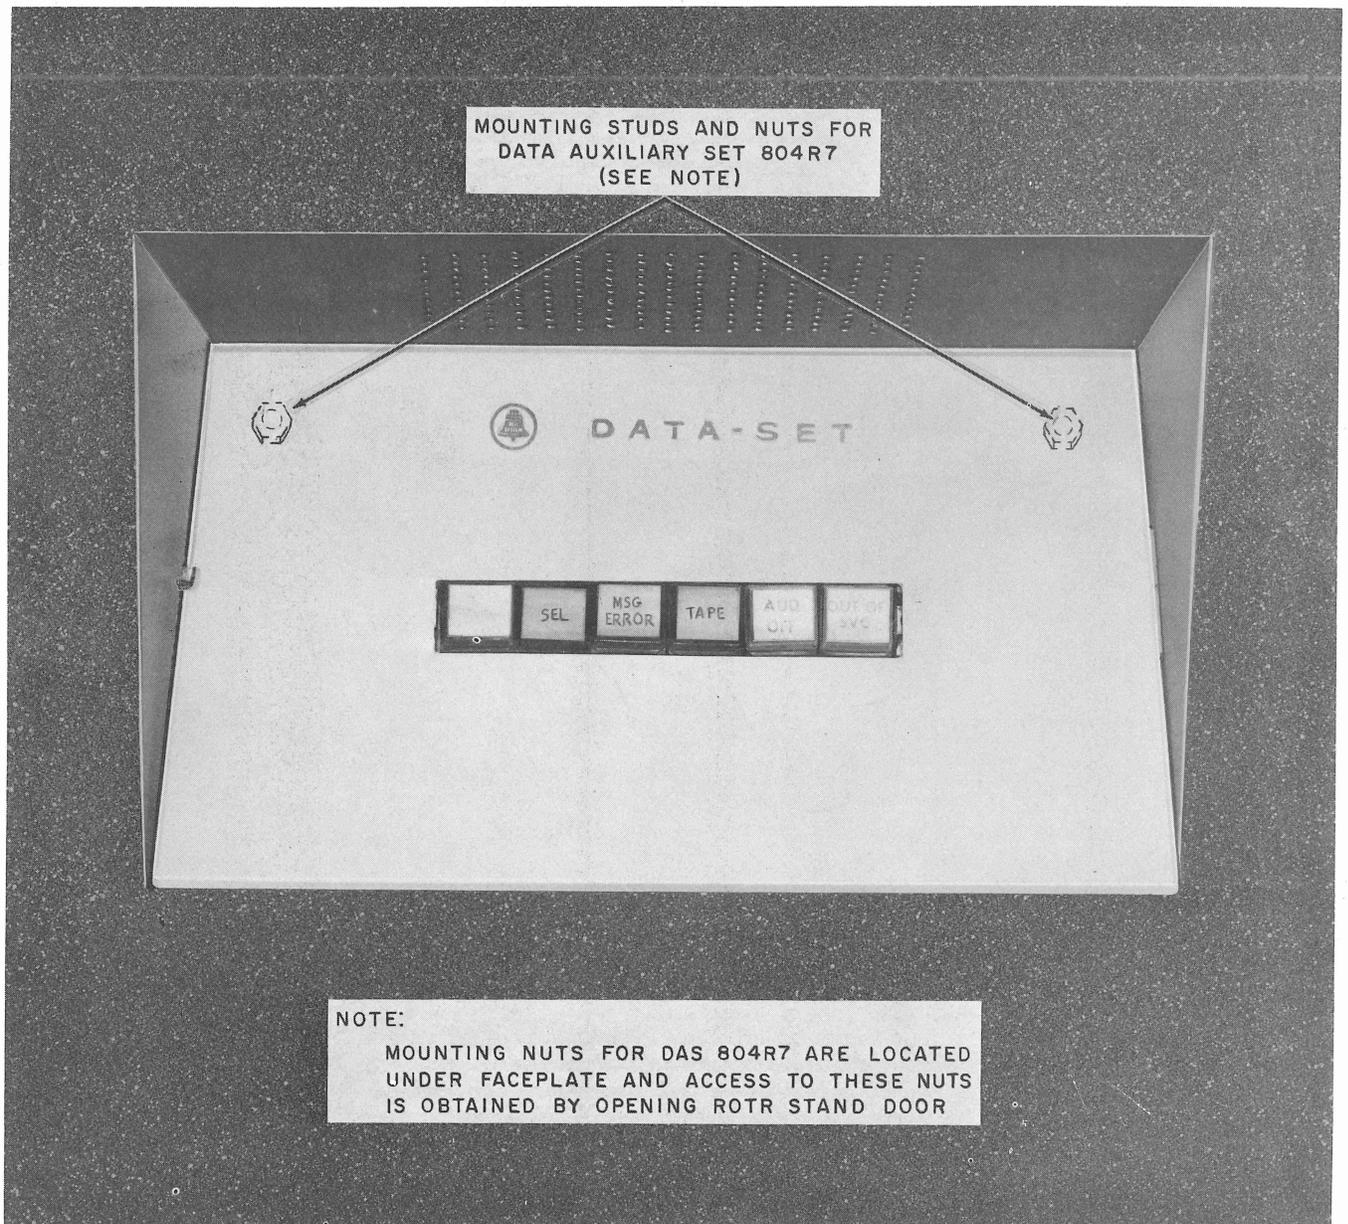

Fig. 12—DAS 804R7 Mounted in the Door of the Primary 35 ROTR TTY
8.01 Maintenance of DAS 804R7 is limited to the replacement of lamps, keys, cord, and/or loudspeaker. The DAS 804R7 is mounted in the door of the ROTR stand (Fig. 12).